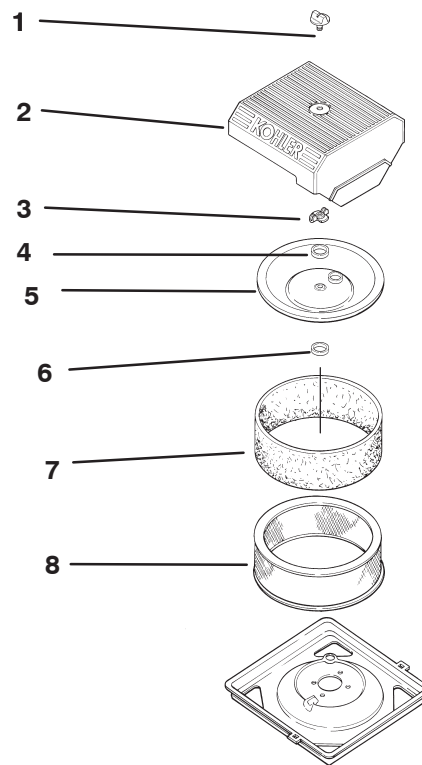

Figure 43
1. Remove knob, O-ring and cover (Fig. 43).